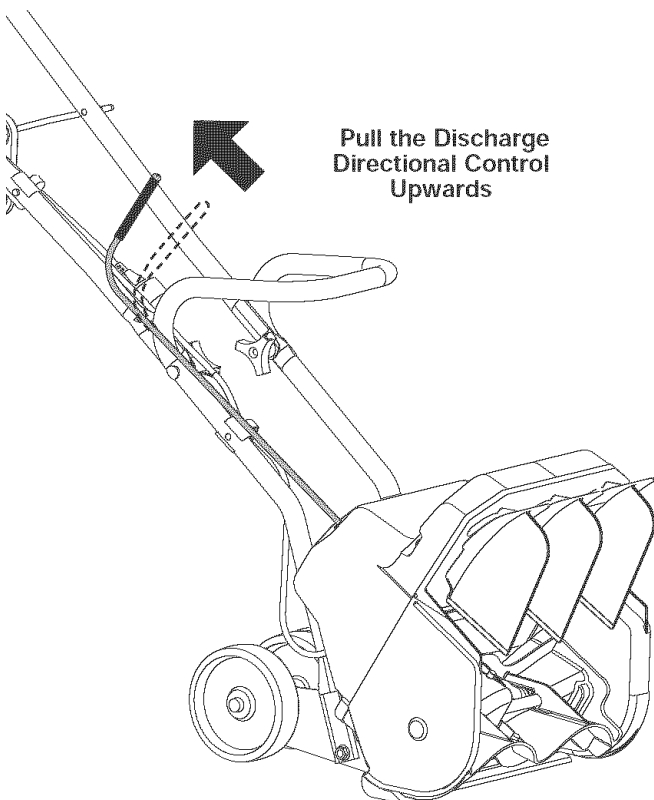

Fig. 6
2. Firmly grasp the discharge directional control handle and pull it up. This releases the spring-loaded rod from the discharge direction slot and allows free movement (Fig. 6)
- If you are transporting the unit with the handles folded, be careful not to make contact and accidentally bend the discharge directional control (Fig. 6). If you bend or damage the control, you can no longer adjust the vanes.